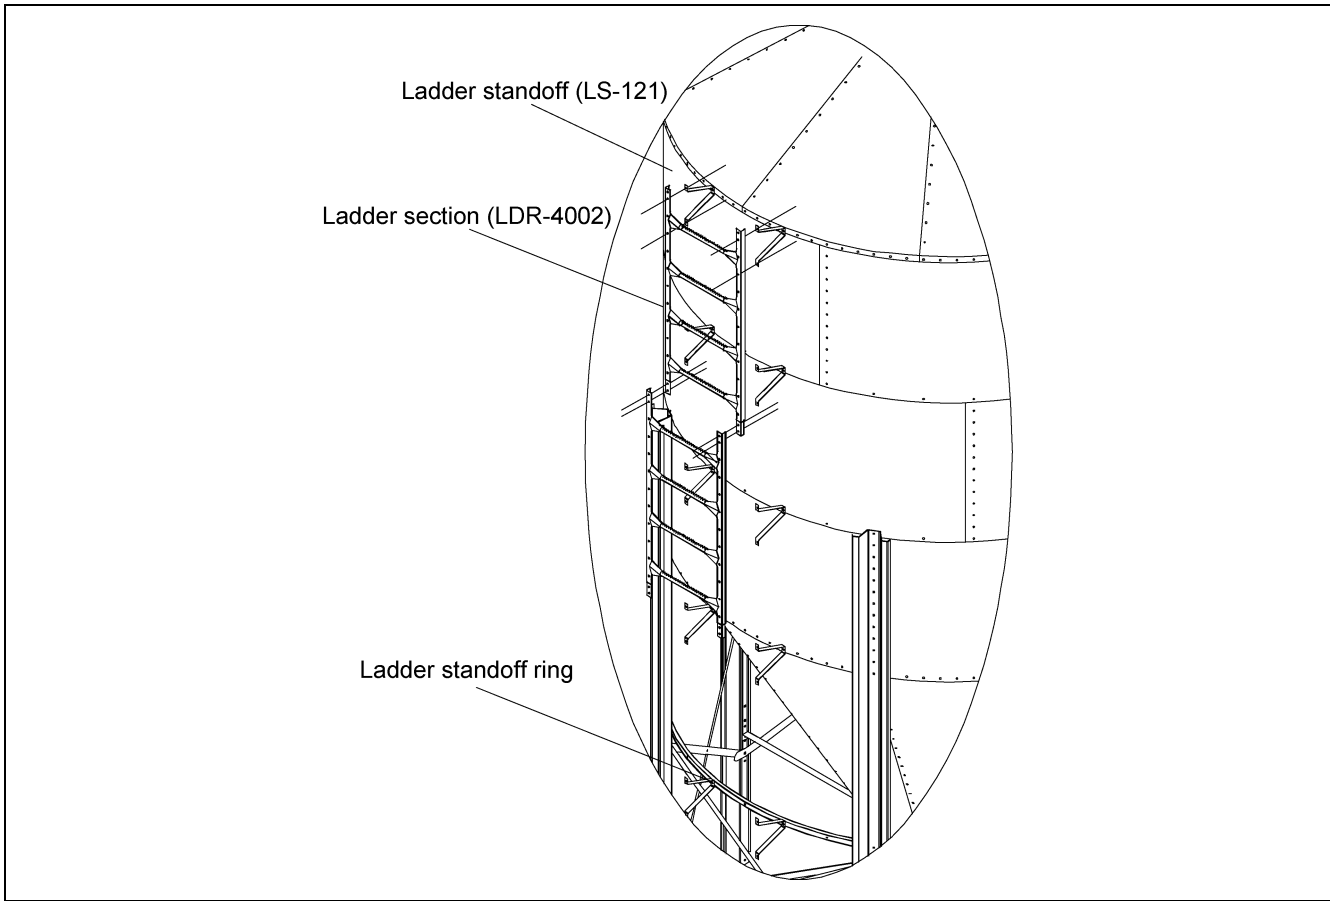

Figure 10B Ladder Standoff Detail
To start sidewall ladder, place two (2) outside standoffs spaces 18-3/4" (476 mm) apart. At the roof eave, the ladder should be located on the standoffs. (Refer to Figure 10B on Page 57.) Continue with standoff located on every horizontal seam. Ladder support ring should be located between two (2) legs as shown. This will support the ladder at the bottom of bulk feed tank. When positioning the ladder on the tank, be sure to attach ladder so the raised non-slip tread surface is to the **top** of the ladder rungs.